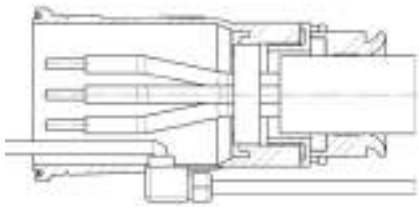

Fig.56: Angled cable gland
4. Fit the pilot cable with an angled cable gland as specified in Fig. 56 when using 160A – 250A C-Line high-current connectors.